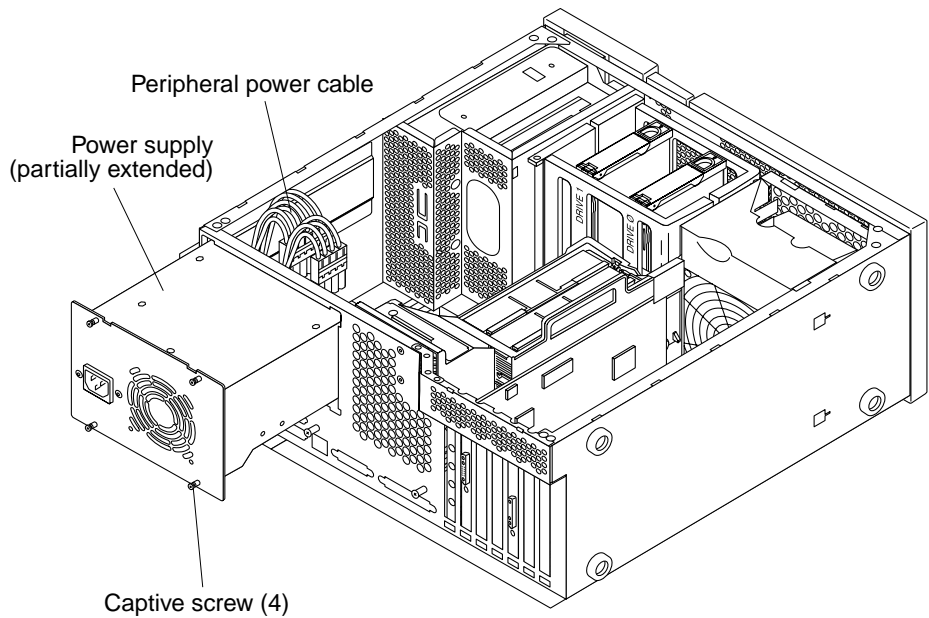

FIGURE 3-6 Removing the Ultra 60 Power Supply
2. Remove the power supply as follows (FIGURE 3-6):